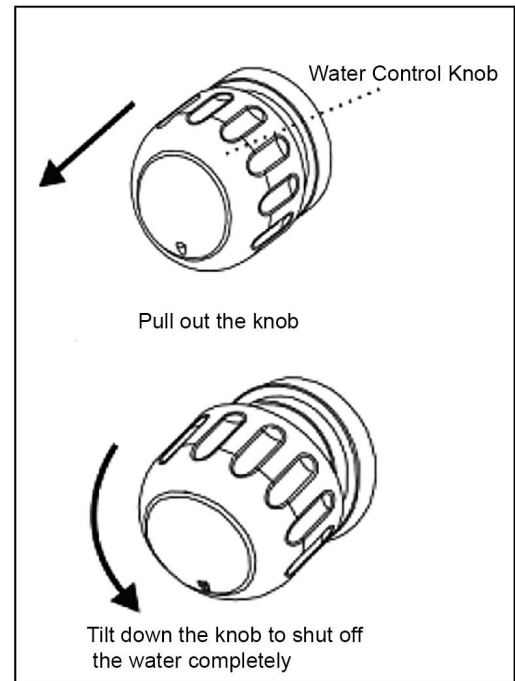

Figure 3. Water control knob
**\*\*\* Water control knob is on by default. Follow the steps in figure 3 to shut down the main valve at the end of the day or when unattended to prevent risks of water damages.**